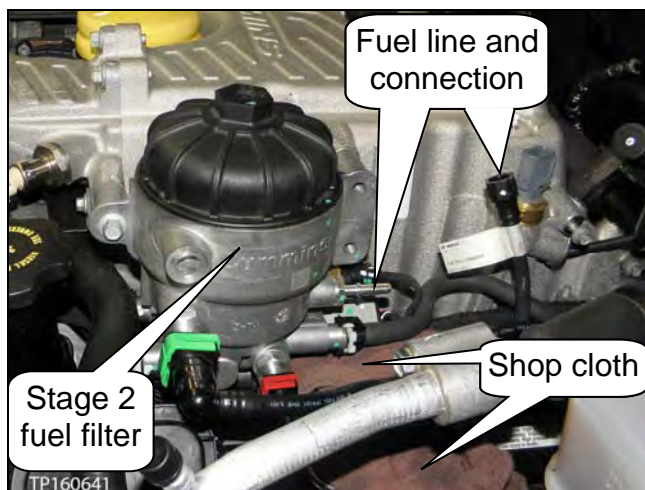

Figure 22
b. Place clean shop cloths under the stage 2 fuel filter assembly fuel line (see Figure 22).
c. Disconnect the fuel line shown in Figure 22 and 23.